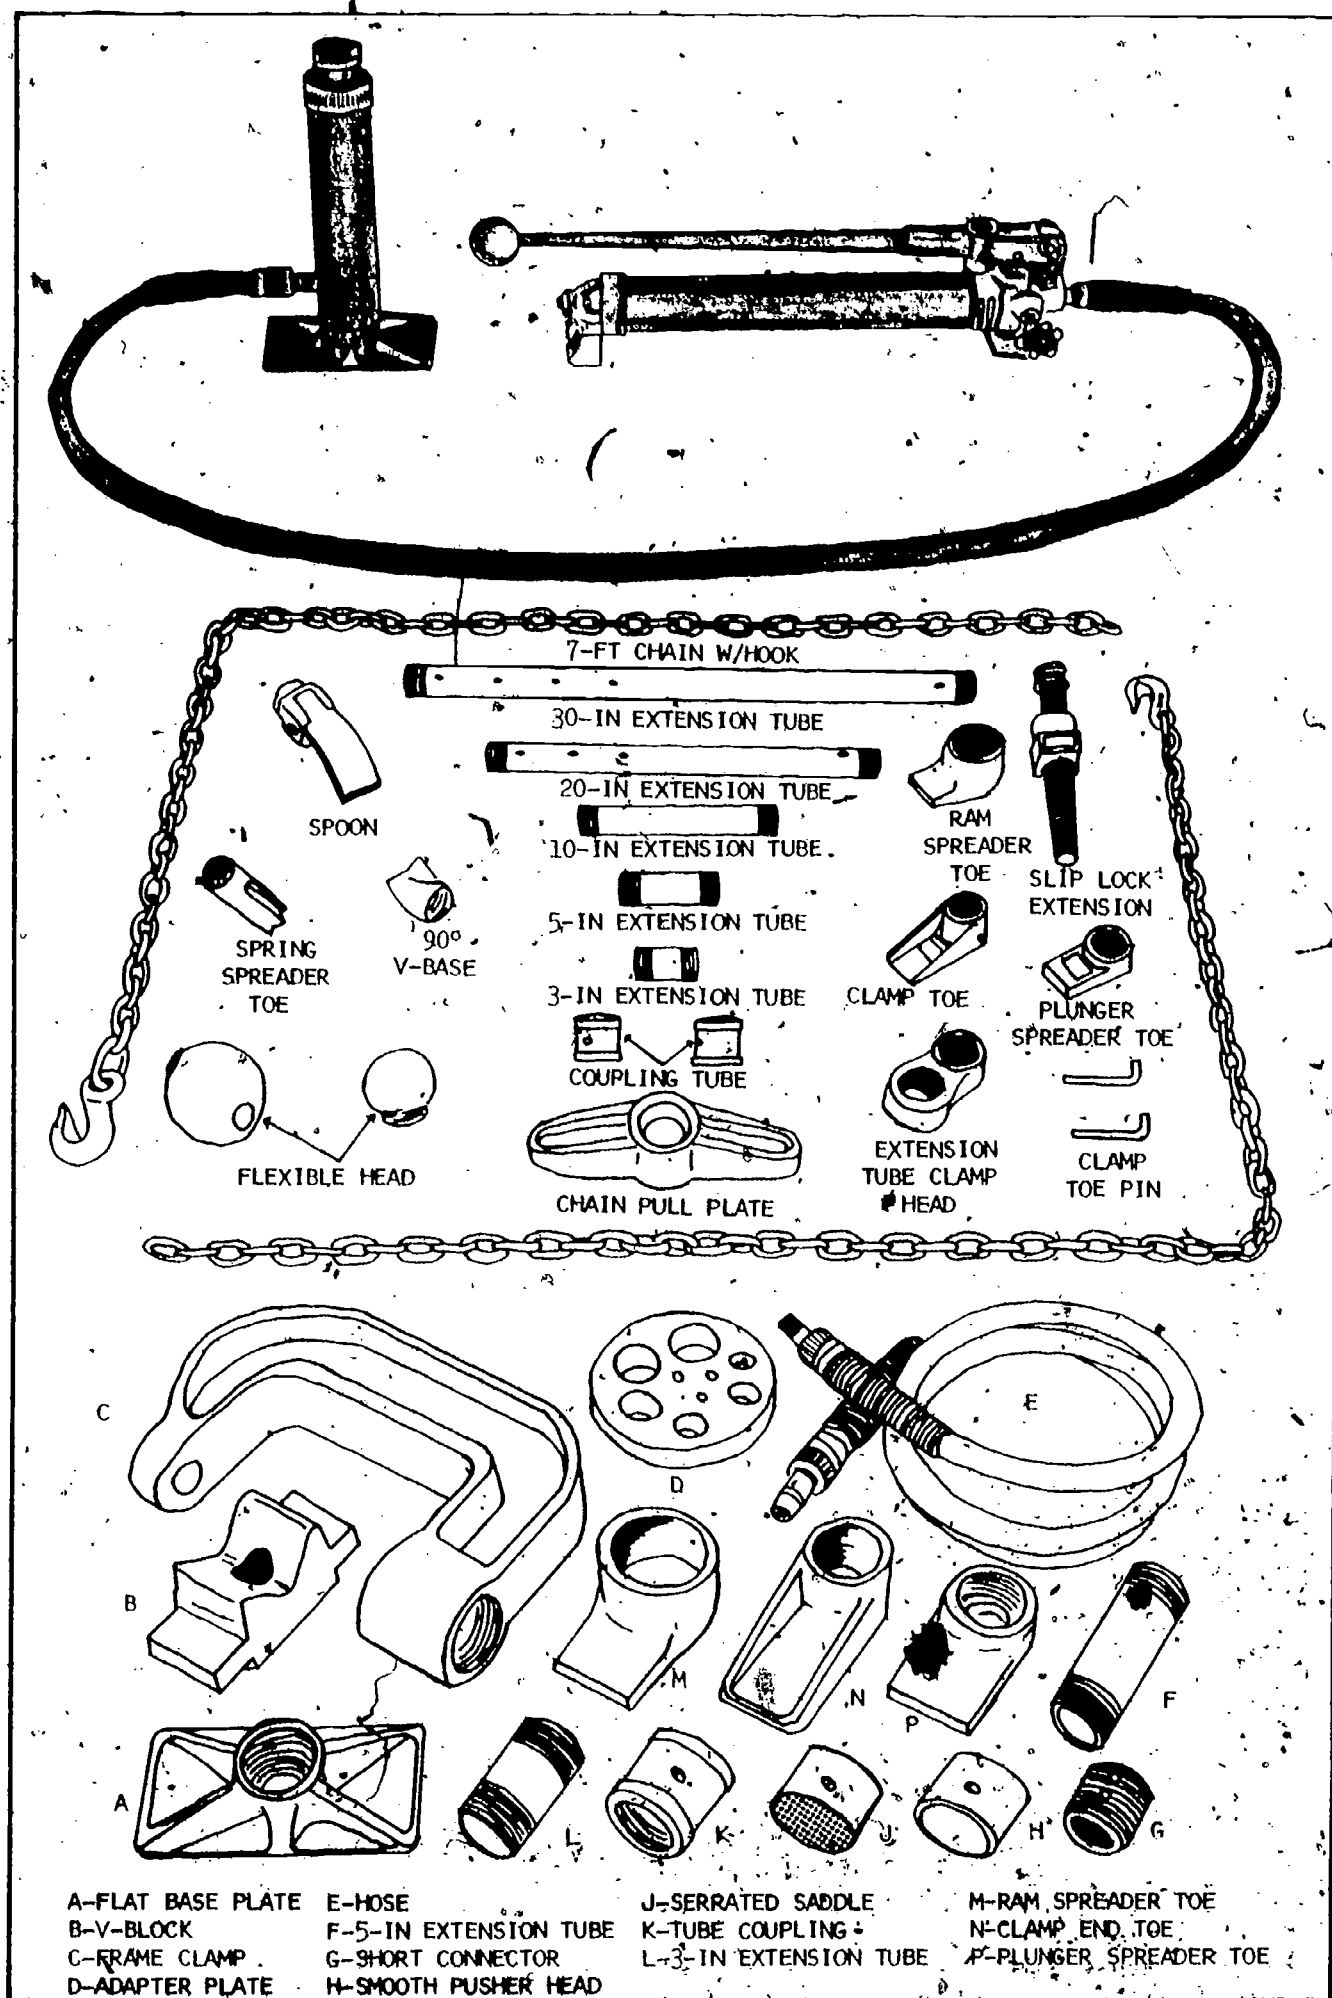

Fig 1-17. Porta-power and attachments.
d. Press. Although a press is not usually an organizational maintenance item, one can usually be found available at the nearest maintenance shop. A 50- to 100-ton hydraulic press and an arbor press are normally set up in the shop; a porta-power (fig 1-17) is usually available for jobs away from the shop. The hydraulic press has a hydraulic assembly mounted at the top of a frame and crossmember which supports the work. The hydraulic assembly is movable from side to side but should be used as near the center as possible. A gage on the hydraulic assembly indicates the pressure exerted on the ram. The hydraulic assembly works like a hand hydraulic jack. The crossmember is adjustable up and down; it can be raised or lowered by cable to the desired height. It is held in position by pins. When using the hydraulic press, use extreme caution to prevent injury to personnel and damage to the item being repaired. The arbor press is a gear and ratchet type unit usually mounted on a bench. Its size and the limited amount of pressure that can be exerted limits its use to small jobs. The porta-power can be used with some of the puller set parts to remove and install parts that require a press; it is portable and has a capacity of approximately 10 tons. There is no gage to indicate the pressure.